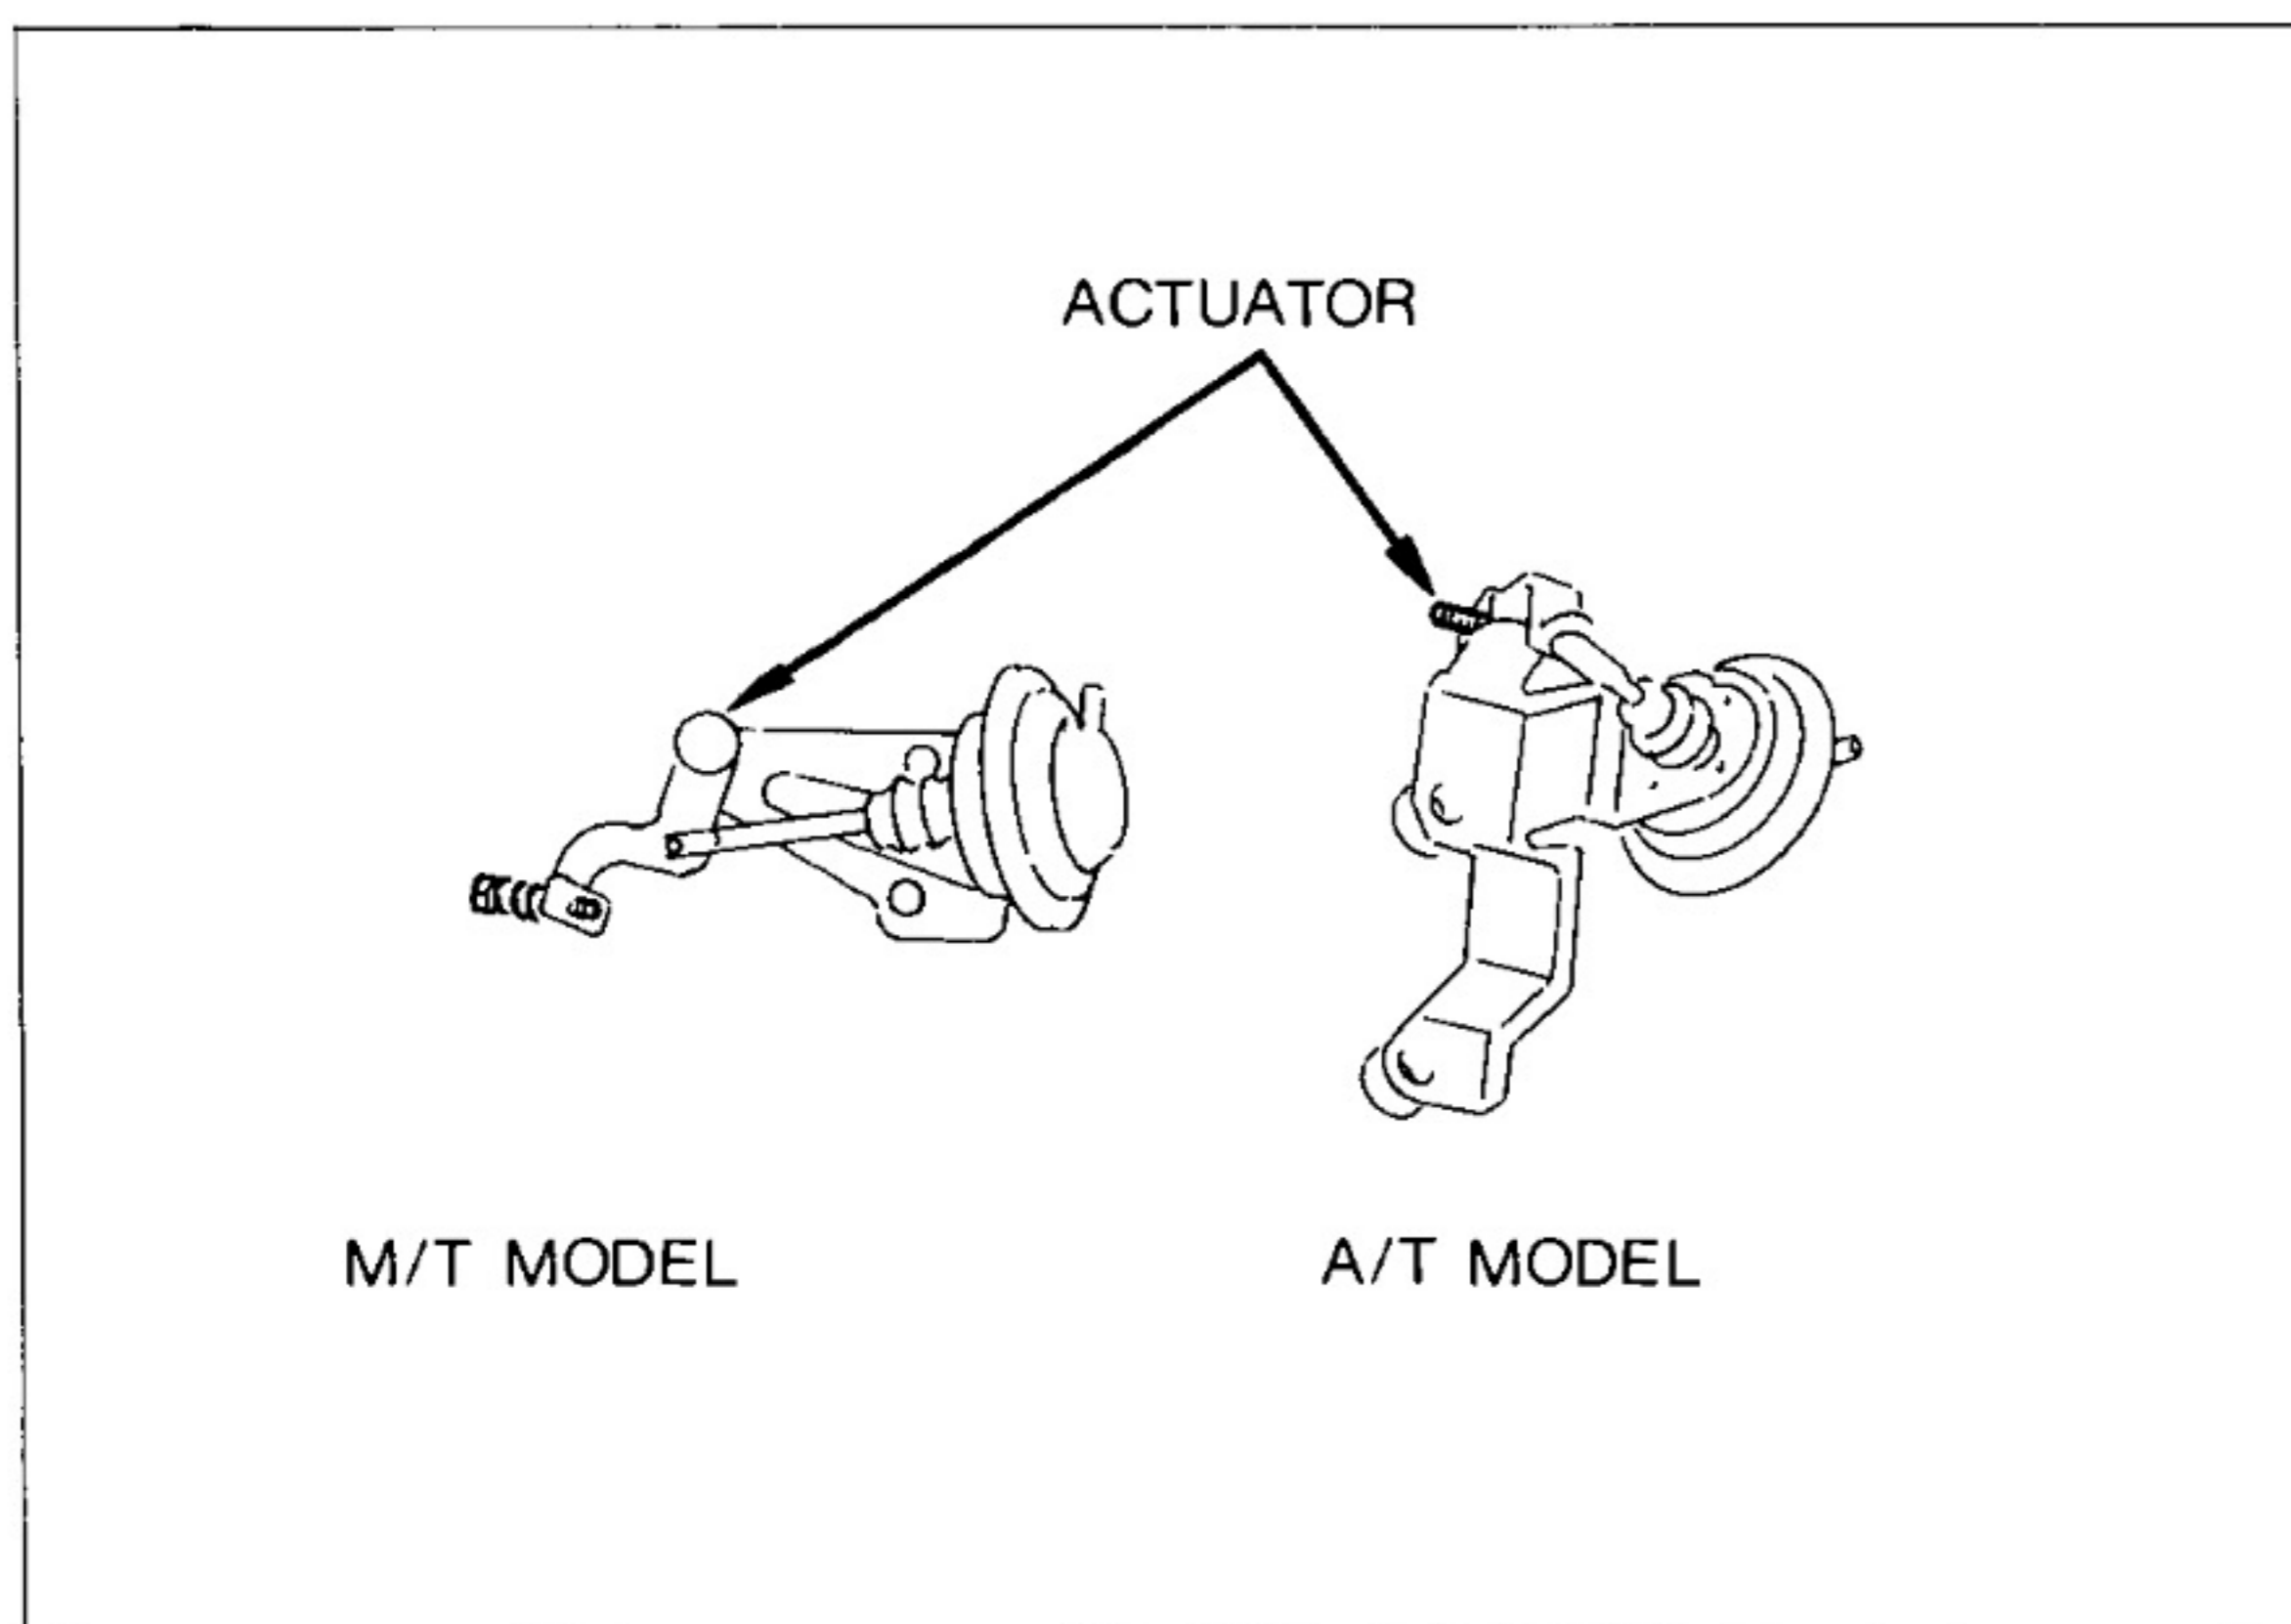
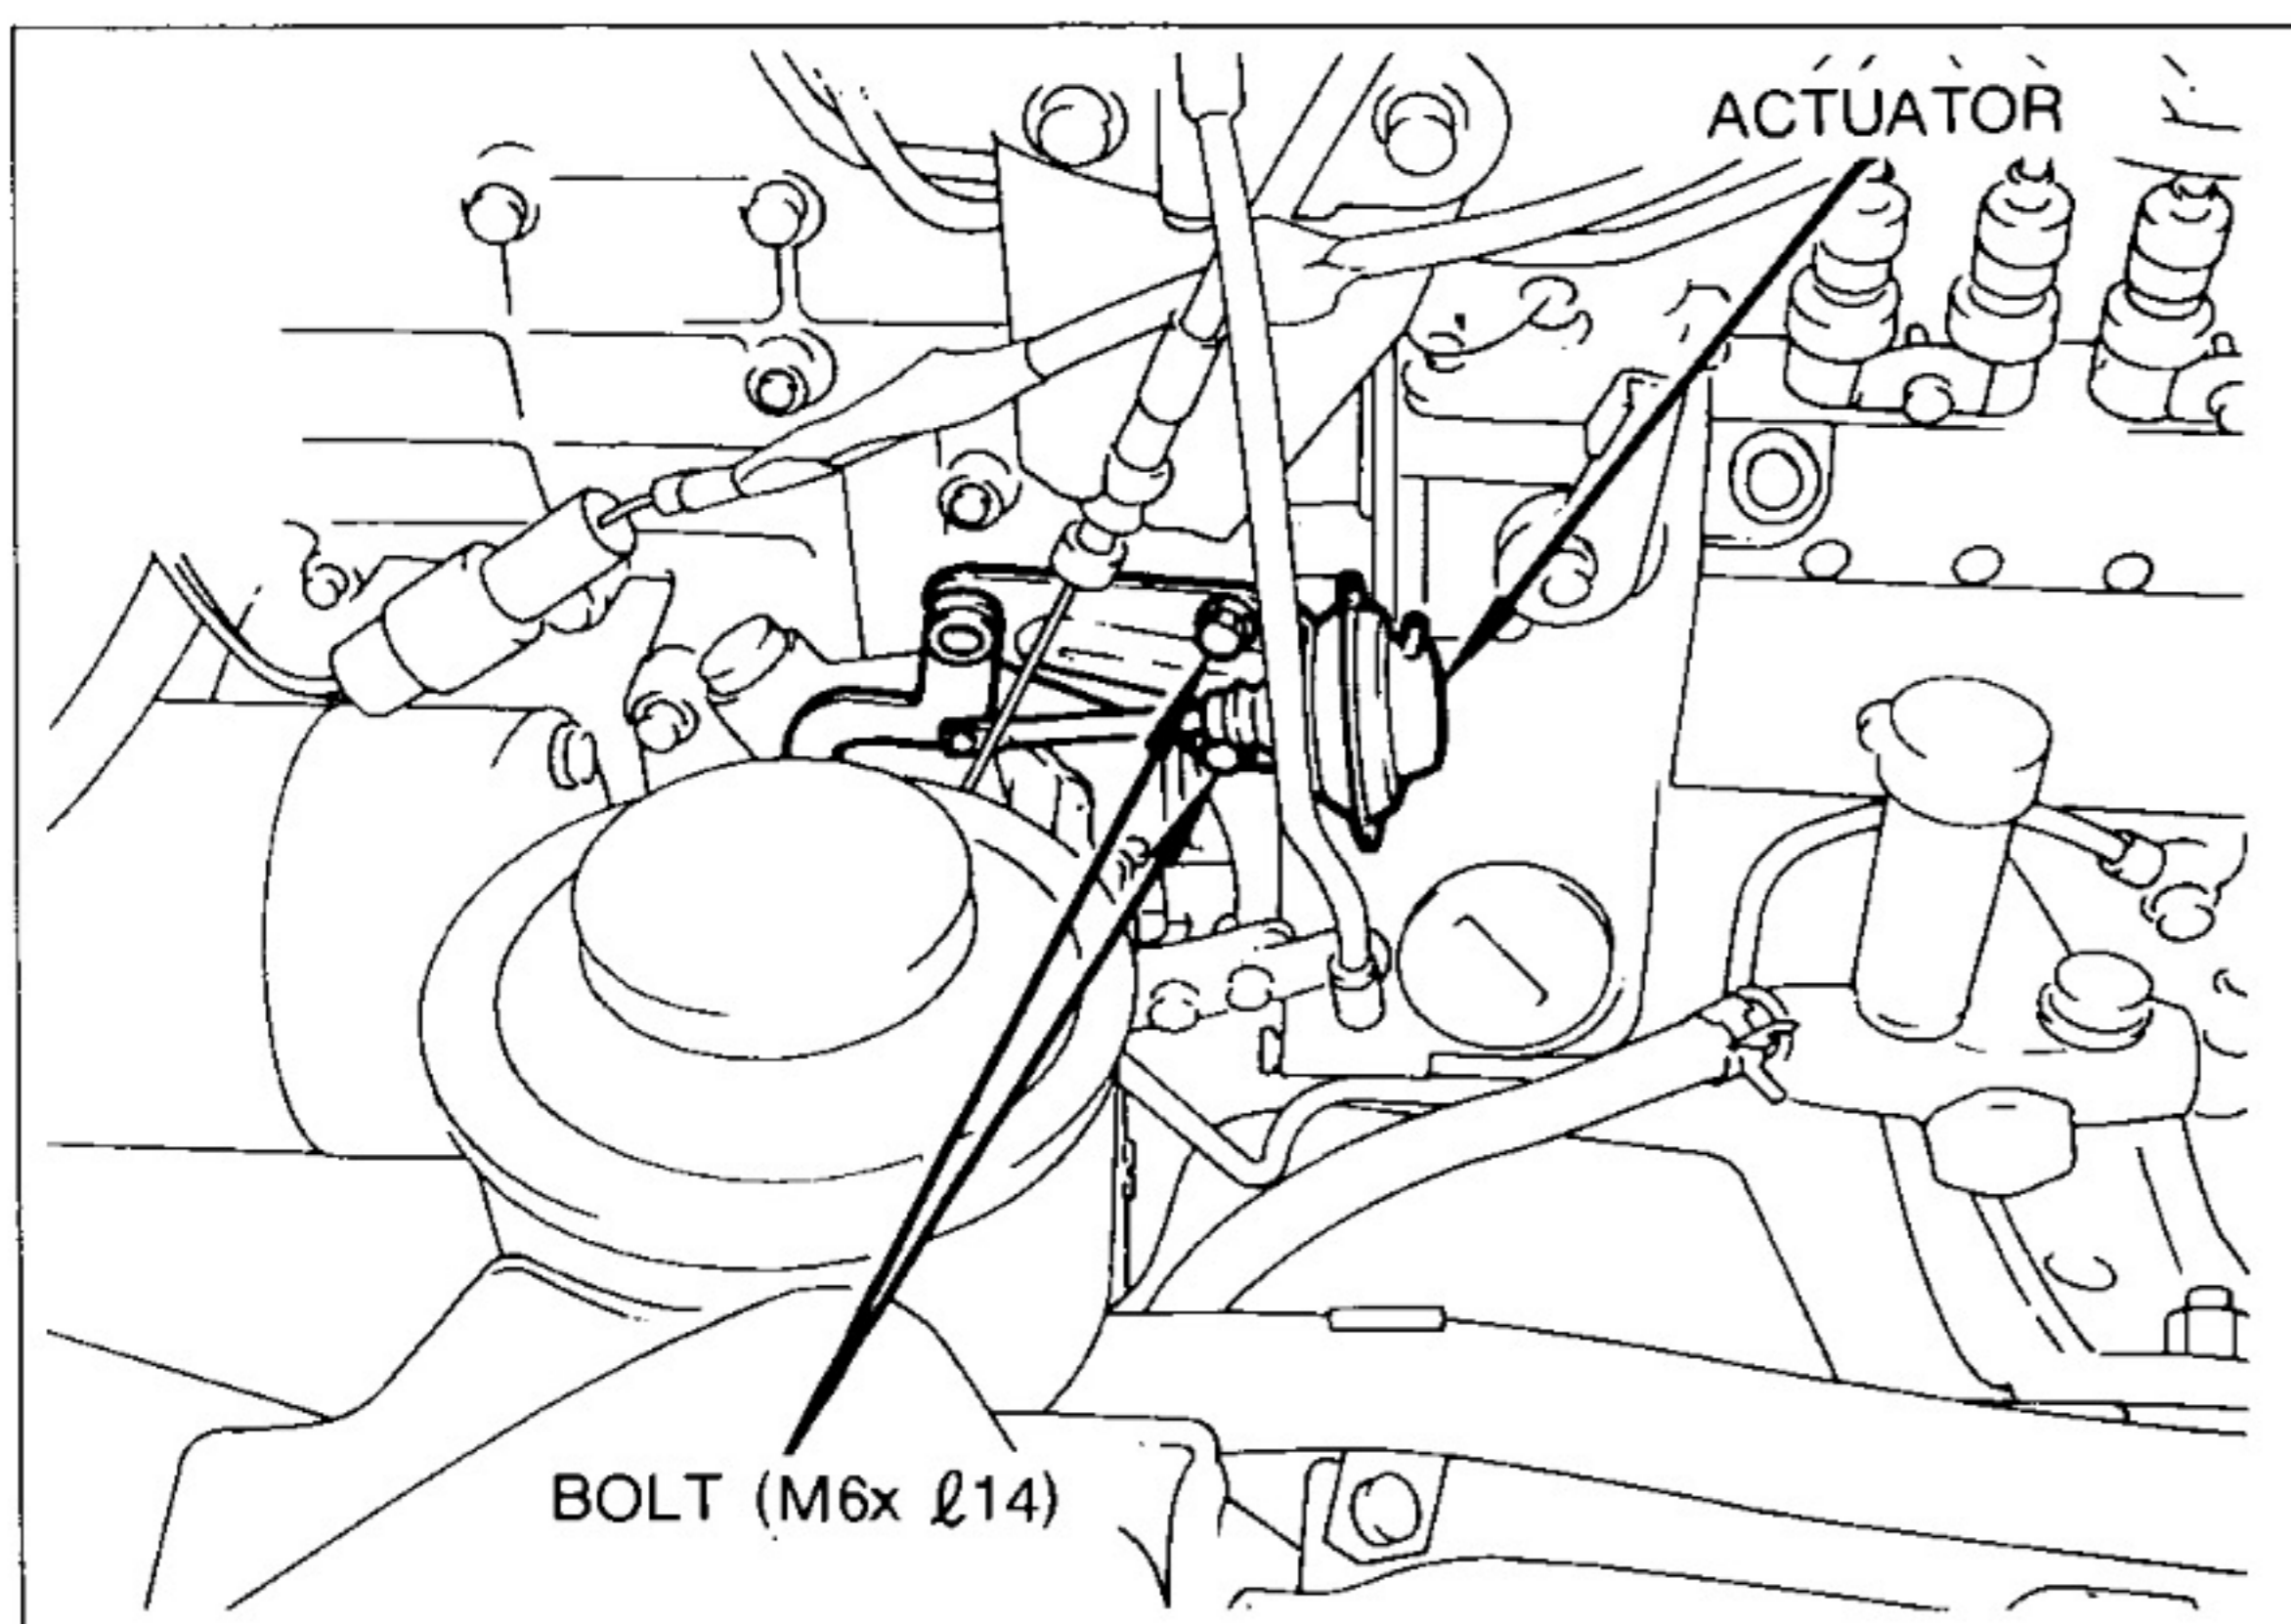
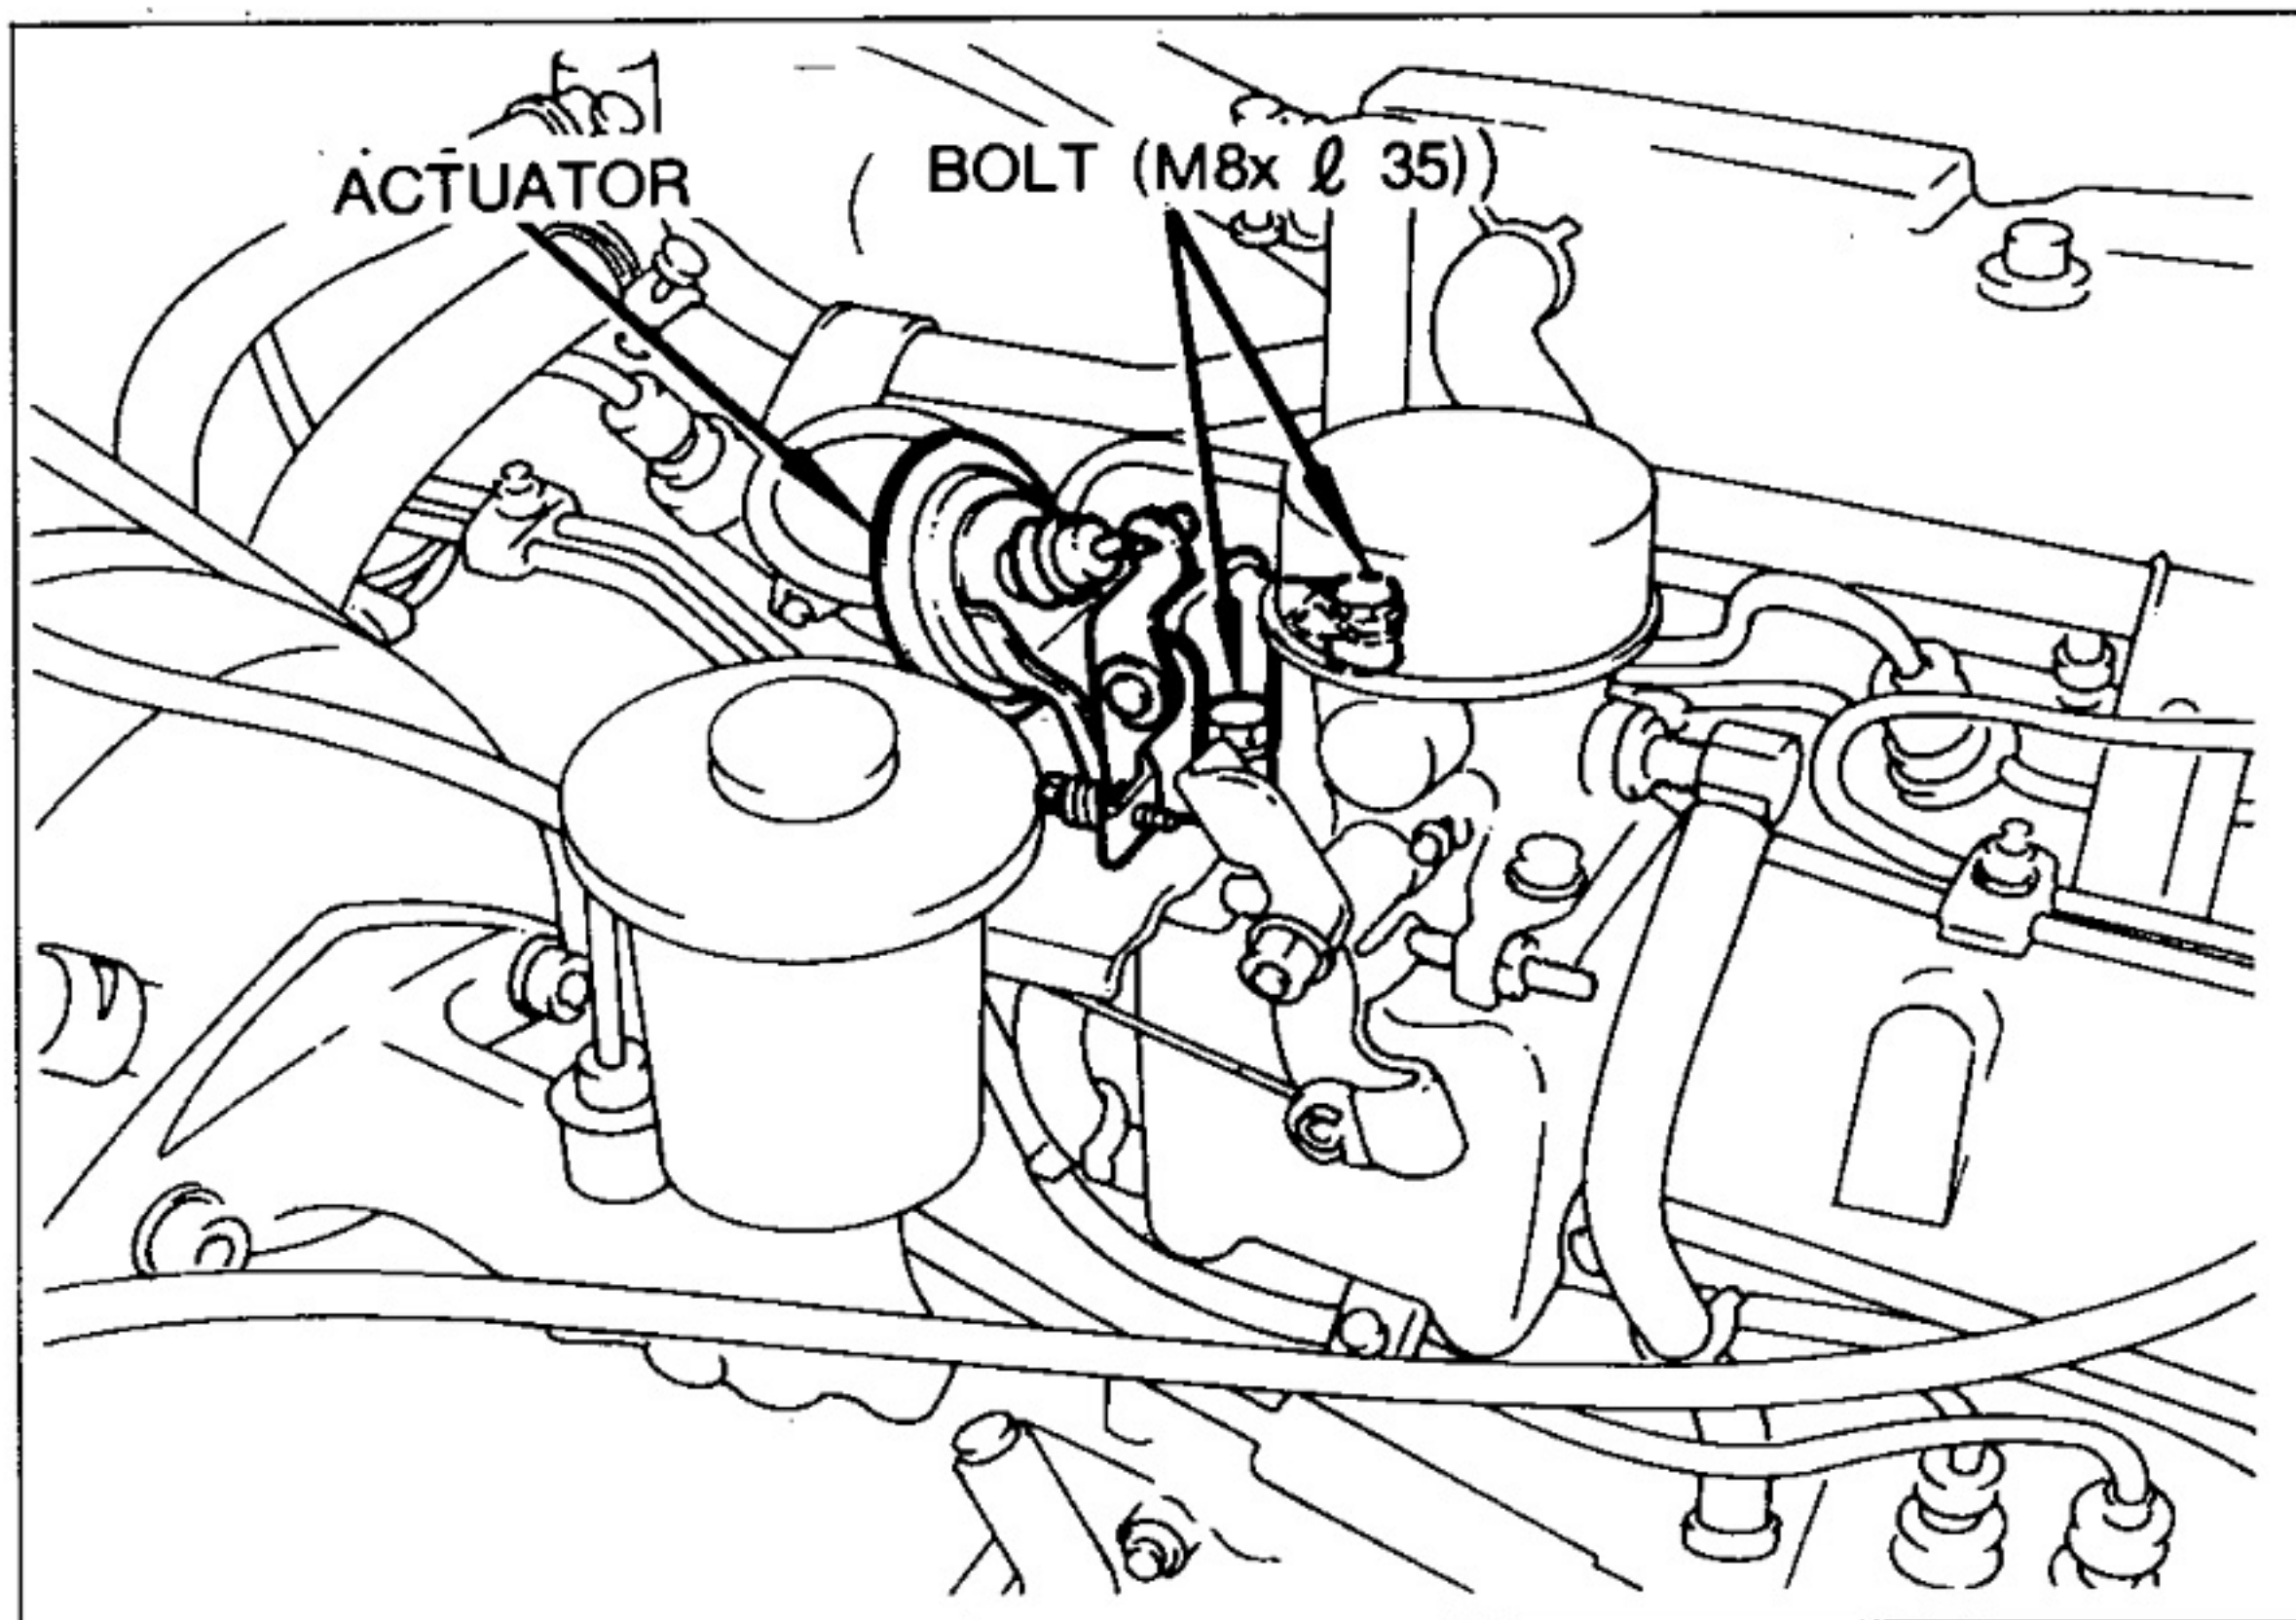

Fig.71
Fig.72
Fig.73
(2) ACTUATOR (M/T MODEL)
- (a) Remove the accelerator cable bracket and install the actuator together with the accelerator cable bracket. See Fig. 71 and Fig. 72.
(3) ACTUATOR (A/T MODEL)
- (a) Install the actuator to the bracket of the injection pump. See Fig. 71 and Fig. 73.